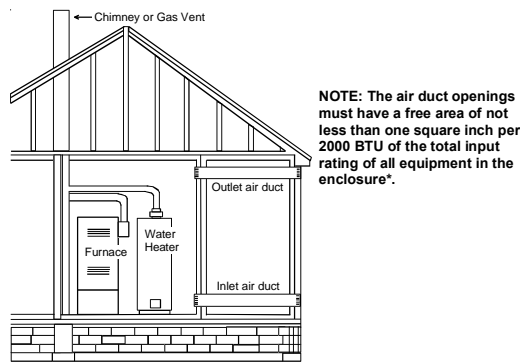

Figure A.9.3.3.1(2) All Combustion Air From Outdoors through Horizontal Ducts.
9.3.3.2* One Permanent Opening Method. One permanent openings, commencing within 12 in. (300 mm) of the top of the enclosure, shall be provided. The appliance shall have clearances of at least 1 in. (25 mm) from the sides and back and 6 in. (150 mm) from the front of the appliance. The opening shall directly communicate with the outdoors or shall communicate through a vertical or horizontal duct to the outdoors or spaces that freely communicate with the outdoors (*see Figure A.9.3.3.2*) and shall have a minimum free area of the following: